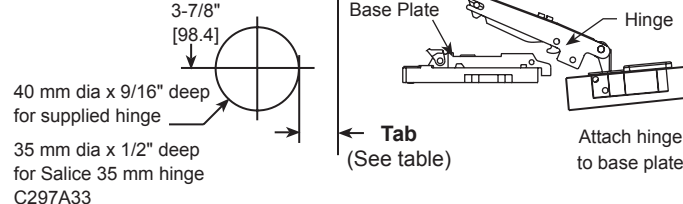

Fig 8
1. With the door fully extended, visually inspect the gaps between the door and the top and bottom skid blocks. Adjust the hinges (adjustment screw A) until the door is centered between the skid blocks. See Figure 8.
5. Extend the door, and check to see that the door pivots to the closed position without interfering with the cabinet. Adjust the hinge outward (adjustment screw B) to ensure swing clearance. See Figure 8.
6. Adjust the hinge left-to-right (adjustment screw C) to square the door to the opening. See Figure 8. If more adjustment is required, loosen the front mounting bracket screw and move the slide left or right.